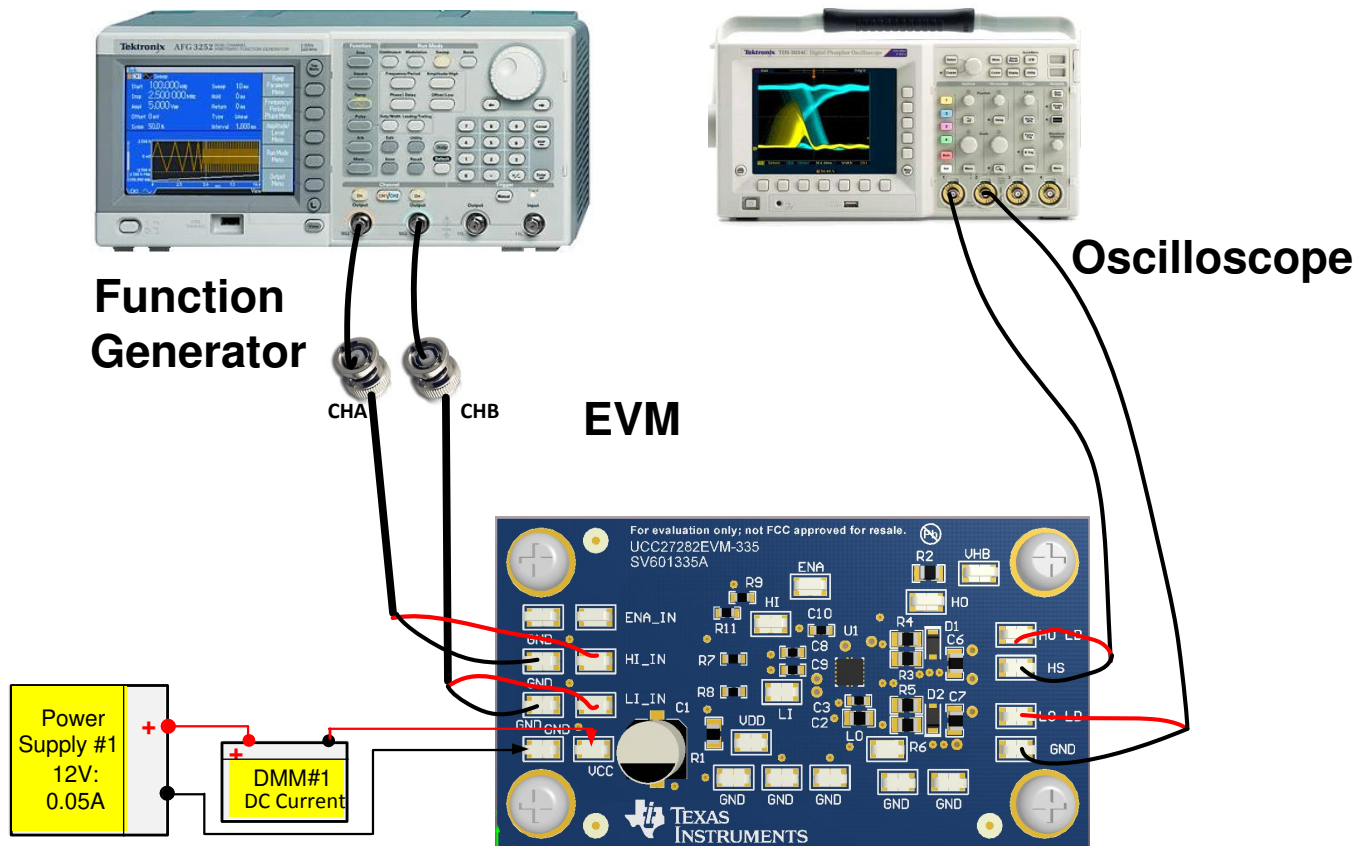

Figure 1. Bench Setup Diagram and Configuration
This procedure details how to configure the UCC27282EVM-335 evaluation board. Within this test procedure, the following naming conventions are applied. Refer to the UCC27282EVM-335 *Bench Setup Diagram and Configuration*, Figure 1, for details.
Use the following connection procedure, refer to Figure 1.
1. Before beginning the power up test procedure, verify the connections with Figure 1.